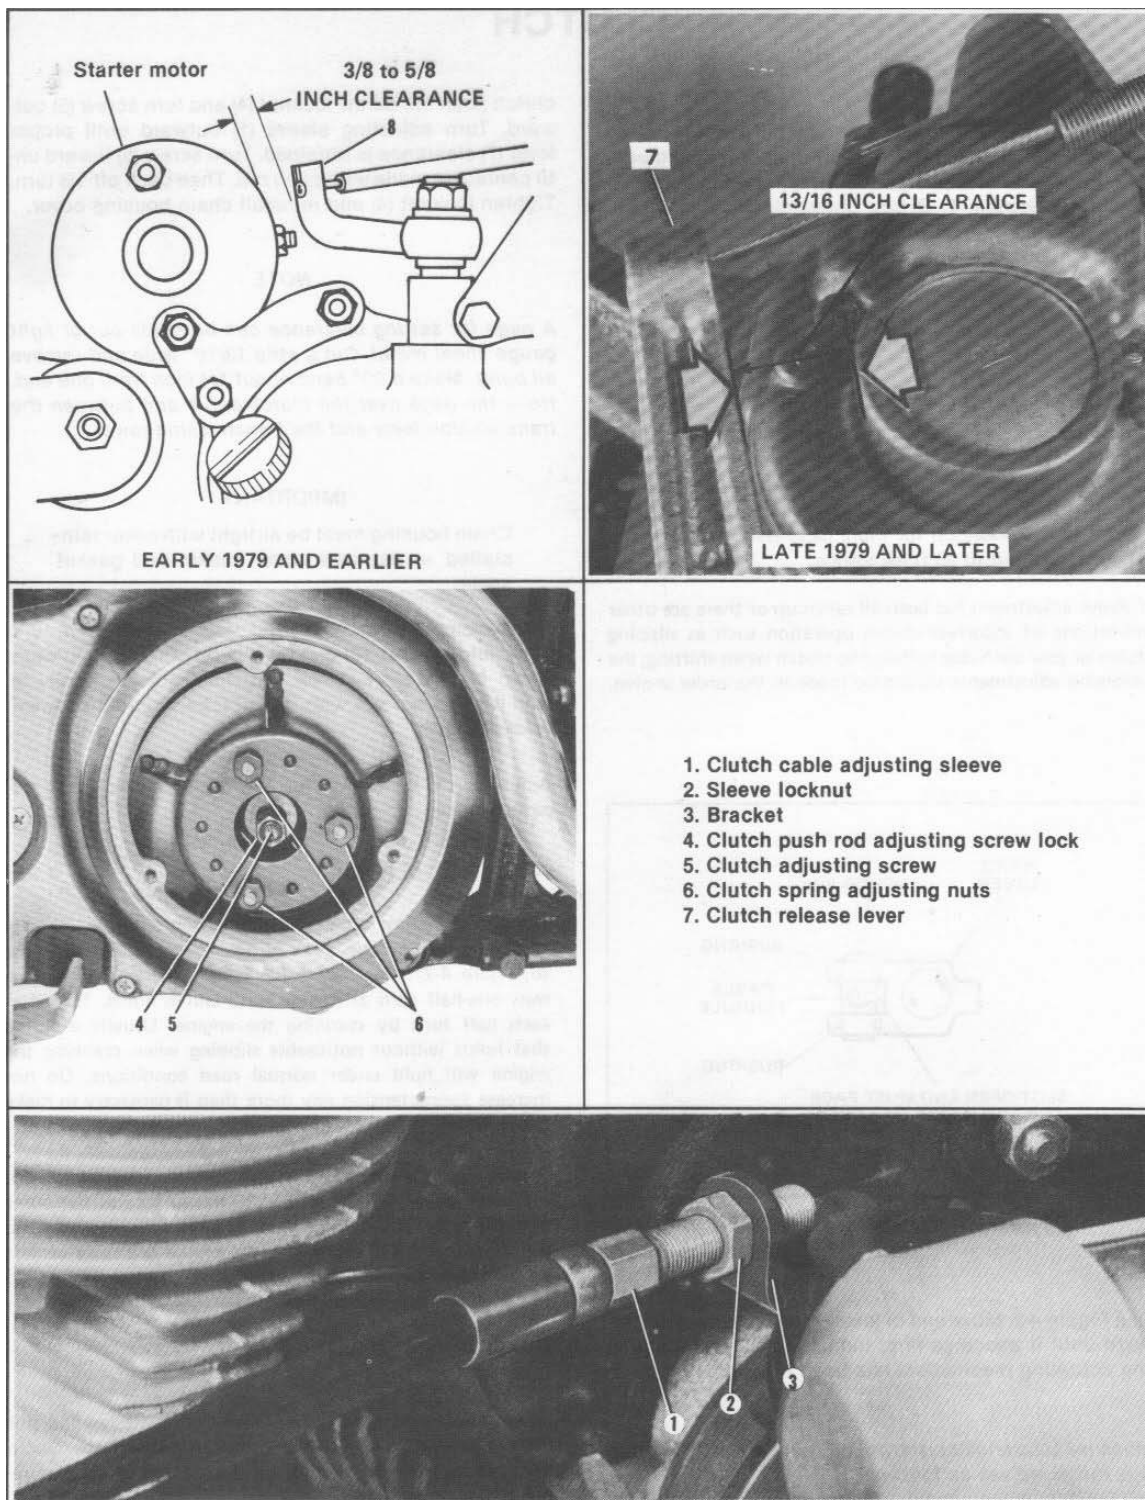

Figure 4-2. Adjusting Clutch
ADJUSTING HAND CLUTCH LEVER (Figure 4-2)
See Figure 4-2. Move end of lever (7) on transmission forward until it becomes firm, indicating that all slack in the actuating mechanism has been taken up.
Measure clearance as shown in Figure 4-2. If not within this range, adjust as follows:
Loosen control coil adjusting sleeve locknut (2, Figure 4-2) and turn control coil adjusting sleeve (1) all the way into bracket. Remove chain housing cover, loosen
If the clutch slips after adjusting clutch controls, increase spring tension on the three clutch spring guide stud nuts (6, figure 4-2). Remove clutch cover and tighten all three nuts one-half turn at a time until clutch holds. Test after each half turn by cranking the engine. Usually a clutch that holds without noticeable slipping when cranking the engine will hold under normal road conditions. Do not increase spring tension any more than is necessary to make clutch hold.